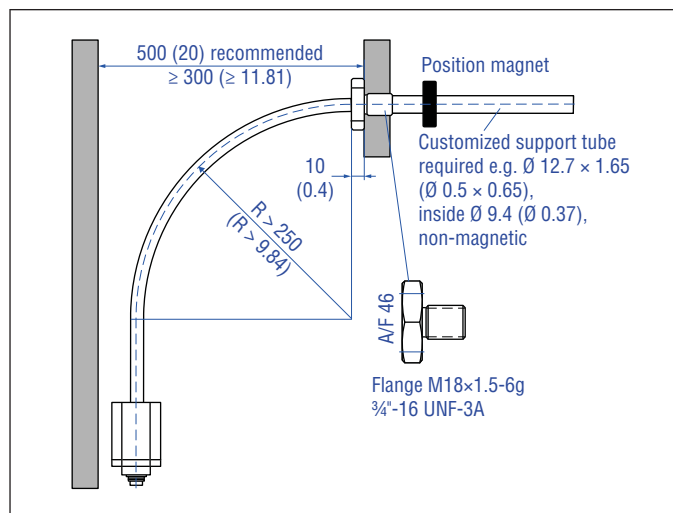

Fig. 14: Clearances for installation and handling
- Mount the sensor electronics housing by means of 3 non-magnetic socket head screws M4×59. Fastening torque: 1.4 Nm (Fig. 14). Secure the screws, e.g. using Loctite 243, before re-installing.